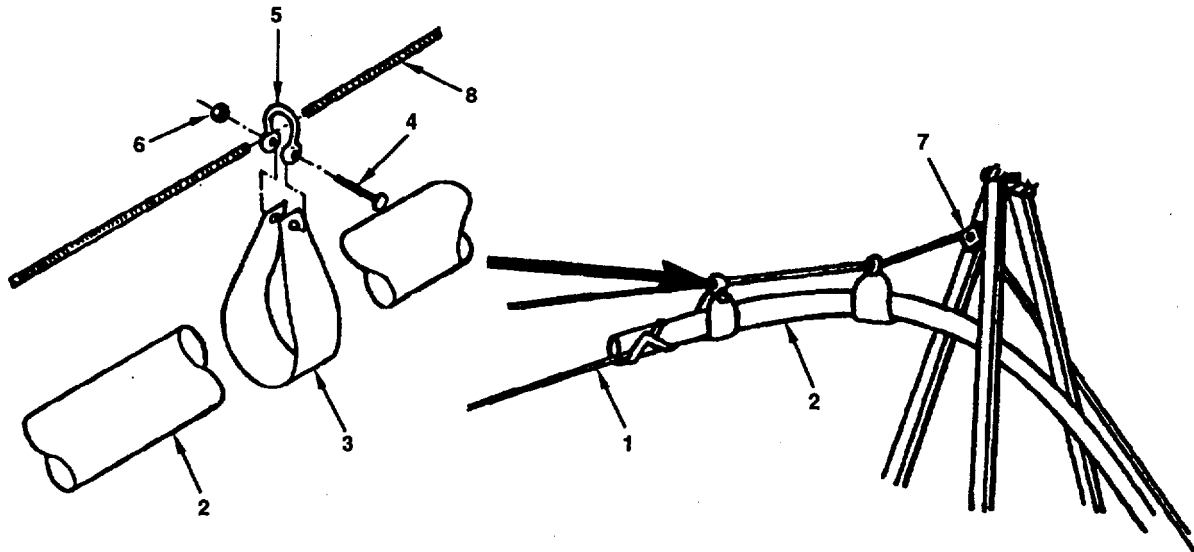
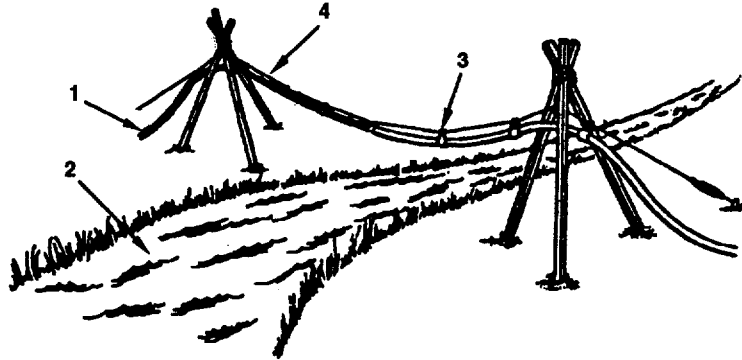

Figure 2-40. Saddle Installation.
Figure 2-41. Hoseline Installation.
- r. Tie manila rope (Figure 2-40, 1) to leading end of hoseline (2). Make sure manila rope (1) is long enough to cross span.
- s. Locate saddles (3), bolts (4), shackles (5) and nuts (6).
- t. Place shackle (5) over wire rope (8) beyond pulley (7) on span side.
- u. Lift hose (2) end and wrap saddle (3) around hose (2).
- v. Install bolt (4) through eyes of saddle (3), shackle (5), and nut (6). Tighten nut (6) until saddle assembly (3, 4, 5 and 6) is secured to wire rope (8).
- w. Using manila rope (Figure 2-40, 1), pull hoseline (Figure 2-41, 1) across stream (2), gap, or obstruction. Repeat steps p through t, attaching additional saddles (3) to hoseline (1) at 5 foot intervals. Saddles (3) will travel along wire rope (4), providing support for hoseline (1).